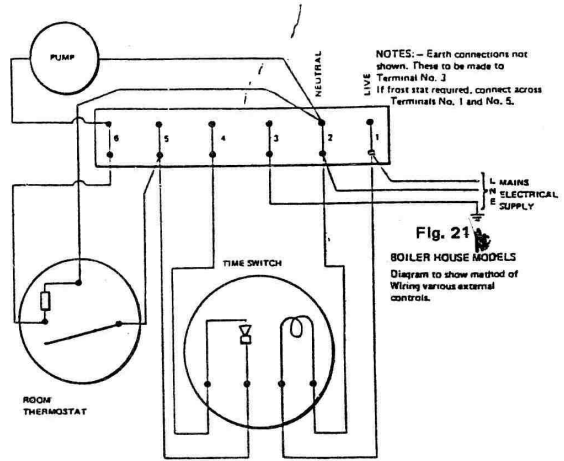

Fig. 21
3. A twelve-way, female with detachable male component terminal block, into which ancillary controls are wired (see fig. 21 onwards).